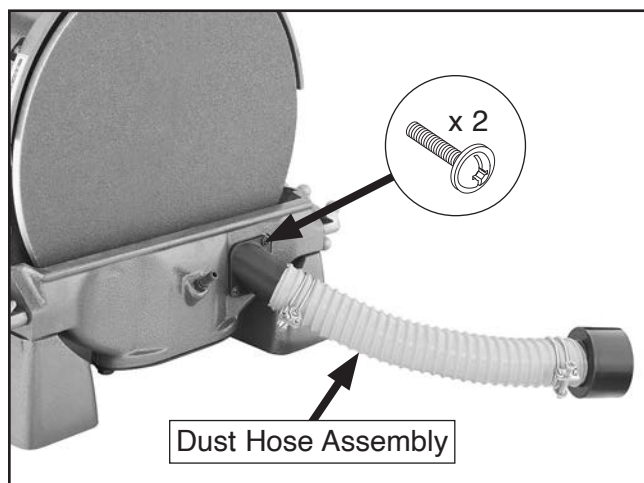

Figure 17. Dust hose assembly attached to lower disc guard.
7. Attach dust hose assembly to lower disc guard with (2) 10-24 x $\frac{3}{8}$ " flange screws (see **Figure 17**).